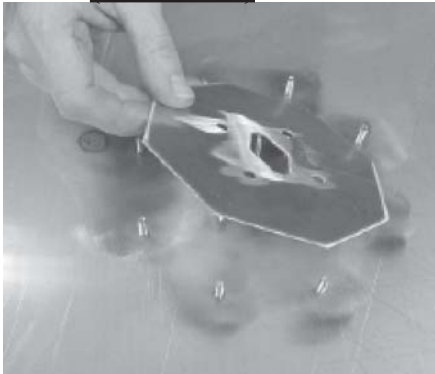

Figure 3-50
8. Locate the aluminum, octagon plate in the kit. Make sure the surface is free of debris and place the plate over the 4 long studs. Figure 3-50.